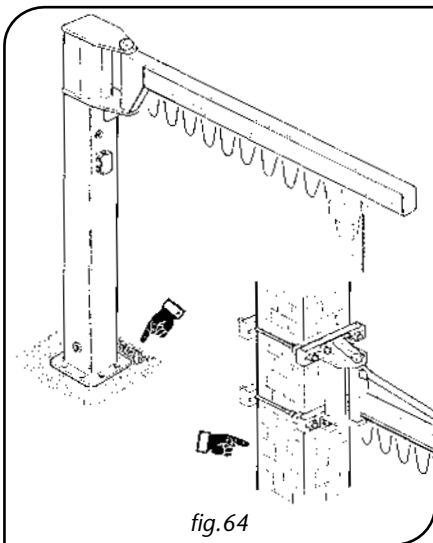

fig.64
- **ALWAYS** check the suitability of the structures (walls, columns, foundations) which support the jib crane (fig. 64).